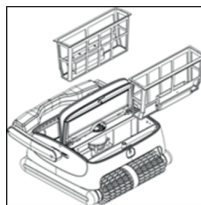

Figure 3
- Remove both filter baskets (see Figure 3).